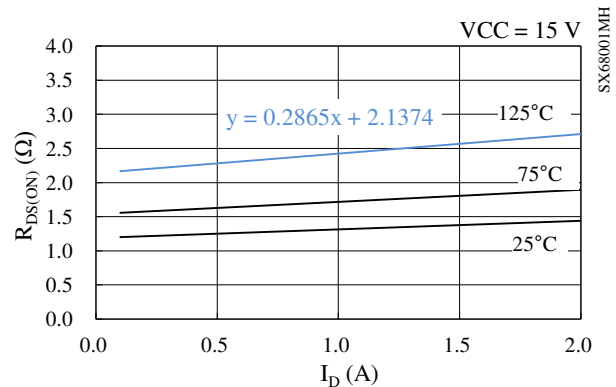

Figure 13-1. Linear Approximate Equation of $R_{DS(ON)}$ vs. I_D Curve
Steady-state loss in a power MOSFET can be computed by using the $R_{DS(ON)}$ vs. I_D curves, listed in Section 14.3.1. As expressed by the curves in Figure 13-1, linear approximations at a range the I_D is actually used are obtained by: $R_{DS(ON)} = \alpha \times I_D + \beta$. The values gained by the above calculation are then applied as parameters in Equation (4), below. Hence, the equation to obtain the power MOSFET steady-state loss, P_{RON} , is: